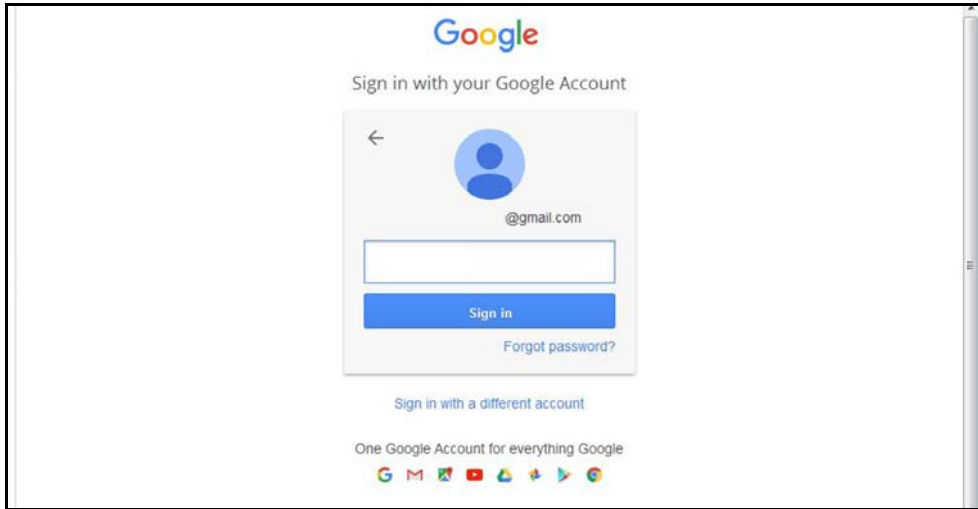

Figure 1-13
5. If your existing email provider login screen displays, enter your email address and password to allow the client to continue the setup with your provider (Figure 1-13).